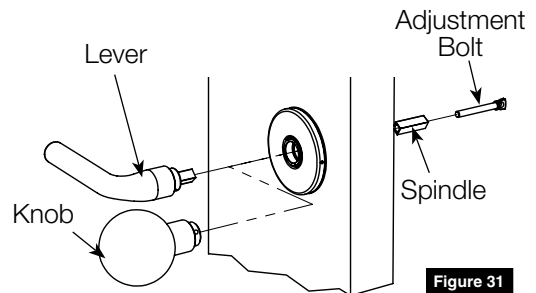

Figure 31
3. Install outside lever or knob by inserting adjustment bolt on opposite side of door. Tighten bolt finger-tight then loosen a few turns. (Figure 31)